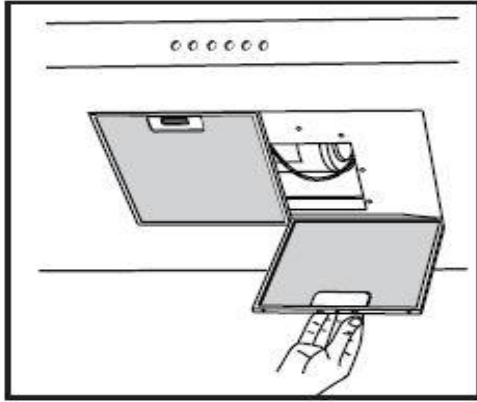

Fig. 12
- The minimum distance between the support surfaces of the cooking pots on the cooker top and the lowest part of the cooker hood must be at least 65 cm. If a connection tube composed of two parts is used, the upper part must be placed outside the lower part. Do not connect the cooker hood exhaust to the same conductor used to circulate hot air or for evacuating fumes from other appliances generated by other than an electrical source. Before proceeding with the assembly operations, remove the anti-grease filter(s) (Fig.12) so that the unit is easier to handle. In the case of assembly of the appliance in the suction version prepare the hole for evacuation of the air.
- If the cooker hood is supplied with a lower chimney piece that must be fixed to the hood body with screws, remove the anti-grease filters from the hood by acting on the relevant handles (Fig.12). Then screw the lower chimney piece pipe to the inside of the hood, using screws **P**(Fig.13).